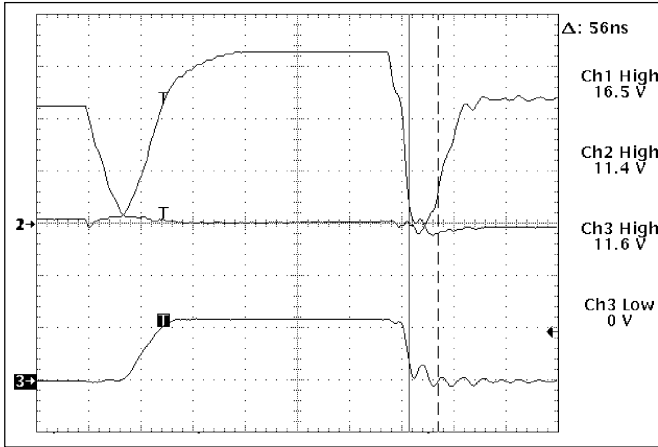

Figure 11: Adaptive FET Non-Overlap (100ns/div).
The CS51312 includes circuitry to prevent the simultaneous conduction of both the high and low side NFETs. This is necessary to prevent efficiency reducing “shoot-through” current from flowing from the input voltage to ground through the two NFETs. Prior to either GATE(H) or GATE(L) driving high, the other GATE must reach its low state. Since GATE rise and fall times vary with loading, this results in a variable delay from the start of turn-off until the start of turn-on (see Figure 11).